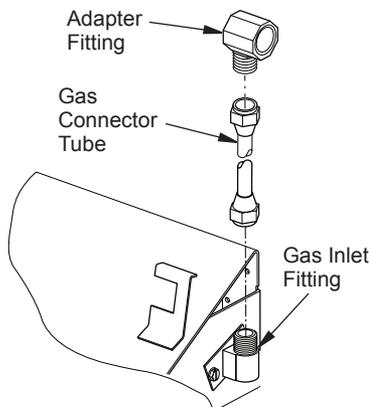

Figure 7 - Connecting Adapter to Gas Supply
3. Install adapter fitting that comes with log set into fireplace gas supply pipe (see Figure 7). Seal using thread sealant.
- Install provided gas connector tube into the gas inlet fitting (see Figure 7, page 8).